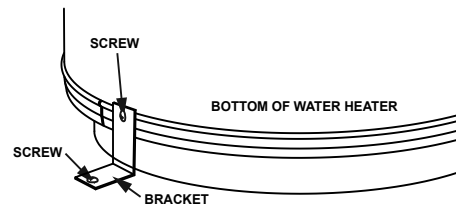

FIGURE 9.
1. After properly locating the water heater, fasten it to the floor with the brackets and screws that were provided (Figure 9). Simply pre-drill each screw location in the metal drain pan and water heater jacket with a 1/8" drill bit. Because of installation variances, these brackets can be located at any points around the circumference of the jacket. However, they should be spaced apart at equal distances.